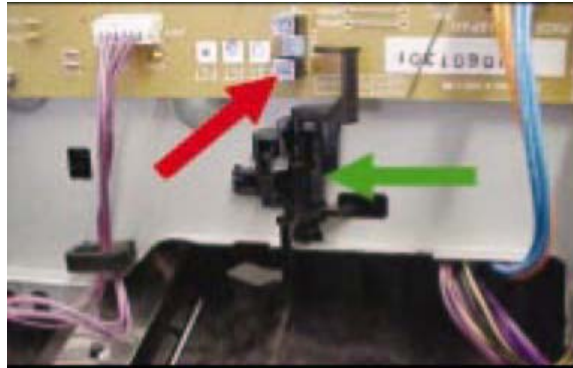

Figure 8 - The duplex paper jam sensor (red arrow) and flag (green arrow).
4. Remove five screws (four on the bottom, one in the back) and tilt out the metal pan containing the power supply board. The sensor is soldered to this board and the flag is mounted to the metal pan next to the sensor (Figure 8).